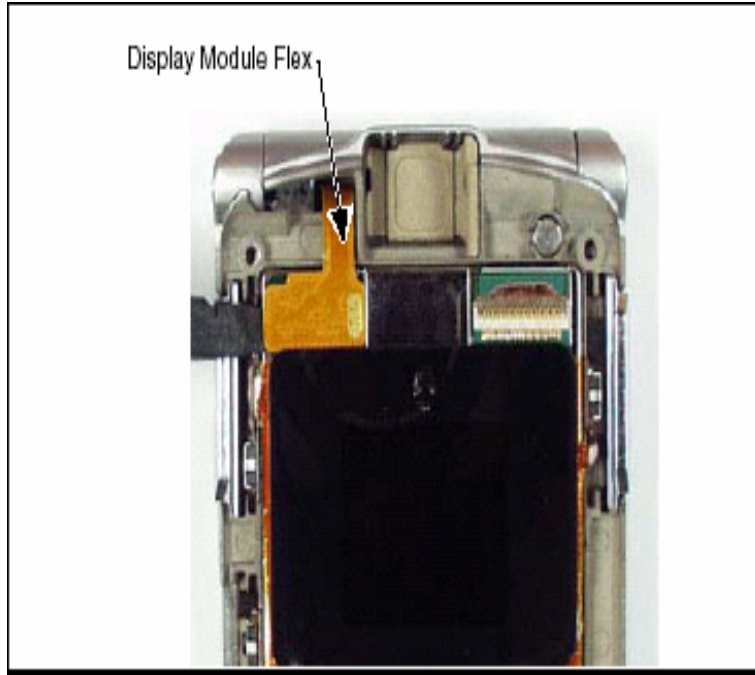

Fig 14
2. Use the disassembly tool to unseat the display module assembly flex connector from its socket (see Figure 14)